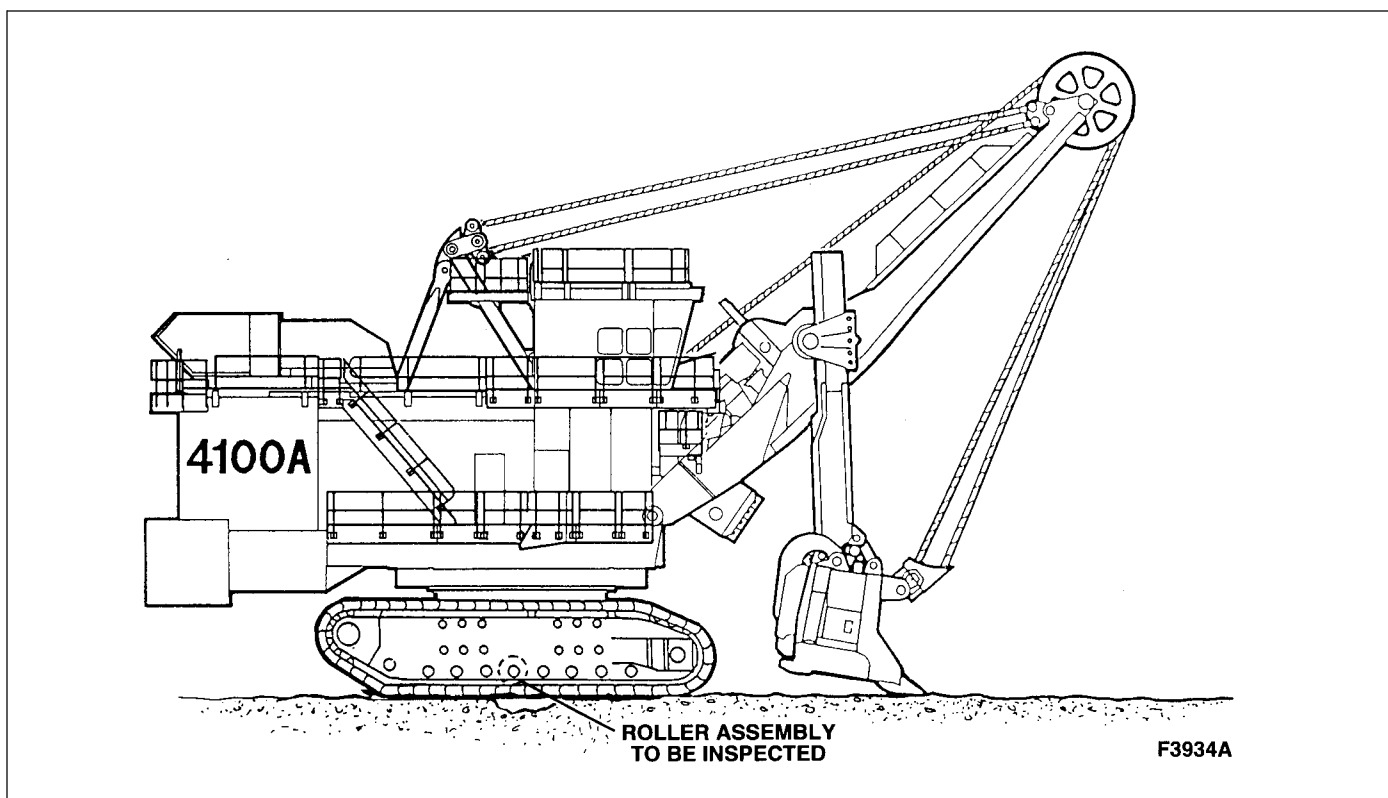

Figure 7-30. Roller Removal Position
2. Propel the mining shovel until the roller to be inspected is over the hole (see Figure 7-30).
2. Position the mining shovel so that the roller can be removed (see Figure 7-30).